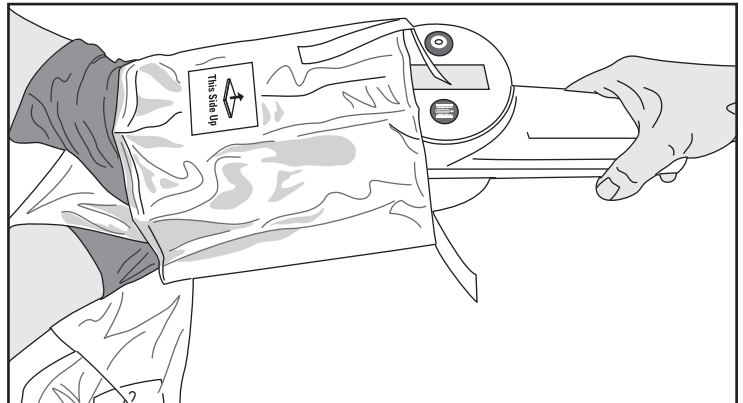

Figure 4. Inserting the MDU5 PLUS
5. The non-sterile operator then places the MDU5 PLUS into the opening, positioning the MDU5 PLUS so that the top of the unit is aligned with the "This Side Up" sticker on the bag (Figure 4).